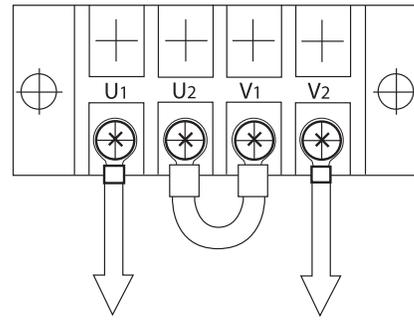

Figure 28: Output Terminal Board, 240 Volt Output
- b. Connect U2 to V1 on the output terminal board (Figure 28).